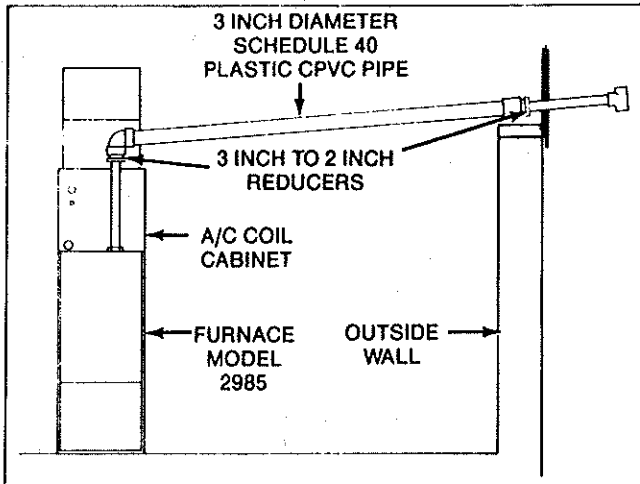

Figure 8
4. All horizontally running vent pipe used on model 2985 furnaces must be 3 inch diameter schedule 40 plastic CPVC pipe. The pipe extending through and past the outside wall must be 2 inch diameter schedule 40 plastic CPVC pipe. A suitable 3 to 2 inch reducer must be used when going from 2 inch to 3 inch diameter pipe. See Figure 8.